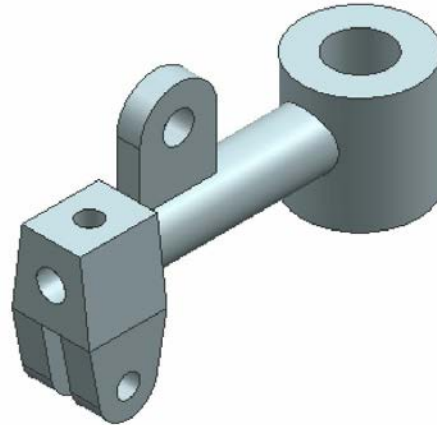

Figure 13-123 Resultant model
4. Enter **60** in the **Distance** edit box of the **Distance** rollout and press ENTER; the preview of the resultant model is displayed. Next, choose the **OK** button to accept the changes. The resultant model is shown in Figure 13-123.